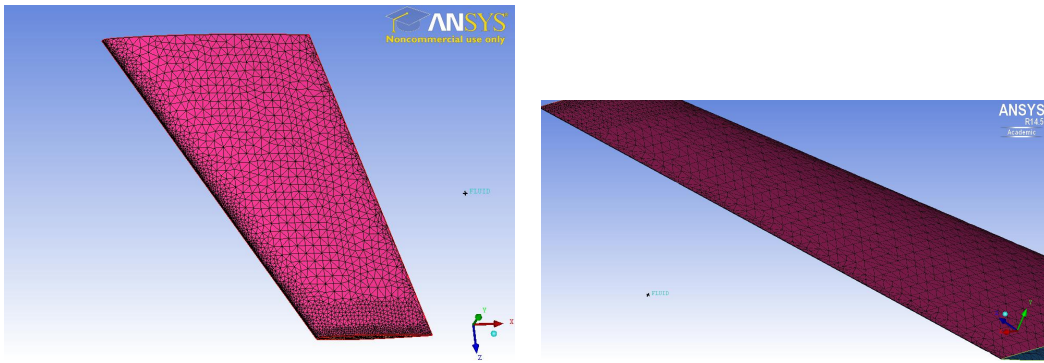

Figure 2.9: 6th mesh generated in ICEM; view from upper surface (left), view from trailing edge (right).
■ **Attempt 2.4** Presented here, the fourth mesh generated in ICEM CFD. Infer from figure 2.9, the mistakes are: